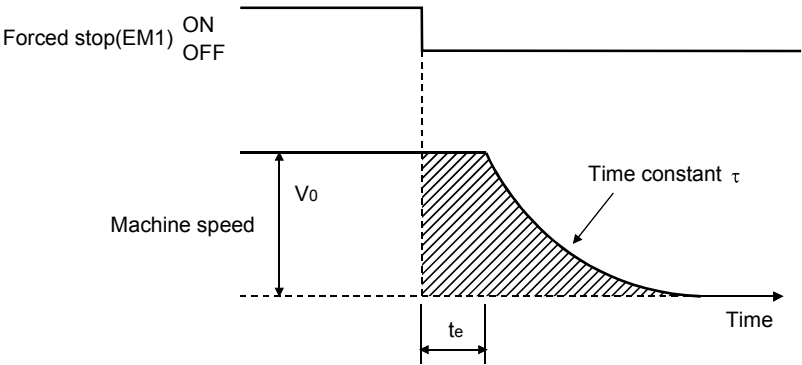

Fig. 11.3 Dynamic brake operation diagram
(1) Calculation of coasting distance
Fig. 11.3 shows the pattern in which the servo motor comes to a stop when the dynamic brake is operated. Use Equation 11.2 to calculate an approximate coasting distance to a stop. The dynamic brake time constant τ varies with the servo motor and machine operation speeds. (Refer to (2) in this section.)